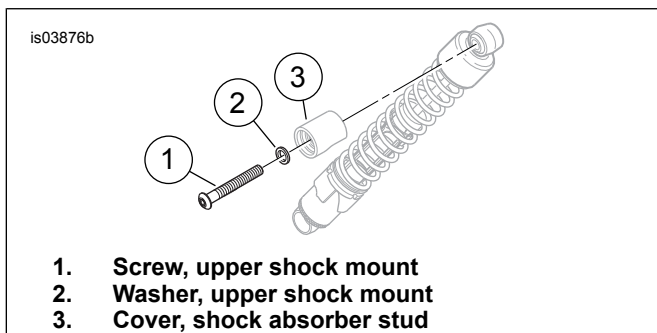

Figure 3. Rear Shock Absorber Upper Mount, 2000 and Later Models
2. See Figure 3. Remove the 1/2-13 bolt (1), washer (2) and shock absorber cover (3). Discard the bolt and cover, but retain the washer for later installation.